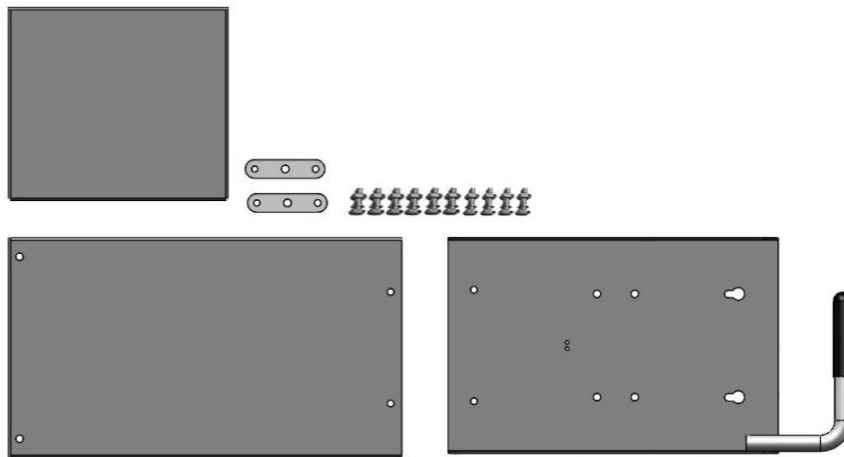

Fig.5
3. Open the carton of power unit stand and check the parts .(**See Fig. 5**).